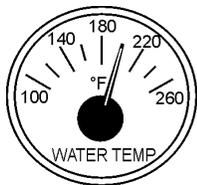

Figure 48. Coolant Temperature Gauge
8. The **coolant temperature gauge** (Figure 48) will indicate the coolant temperature. Under normal operating conditions the coolant temperature should be between 180°~225°F (75°~95°C) (**Green Zone**).